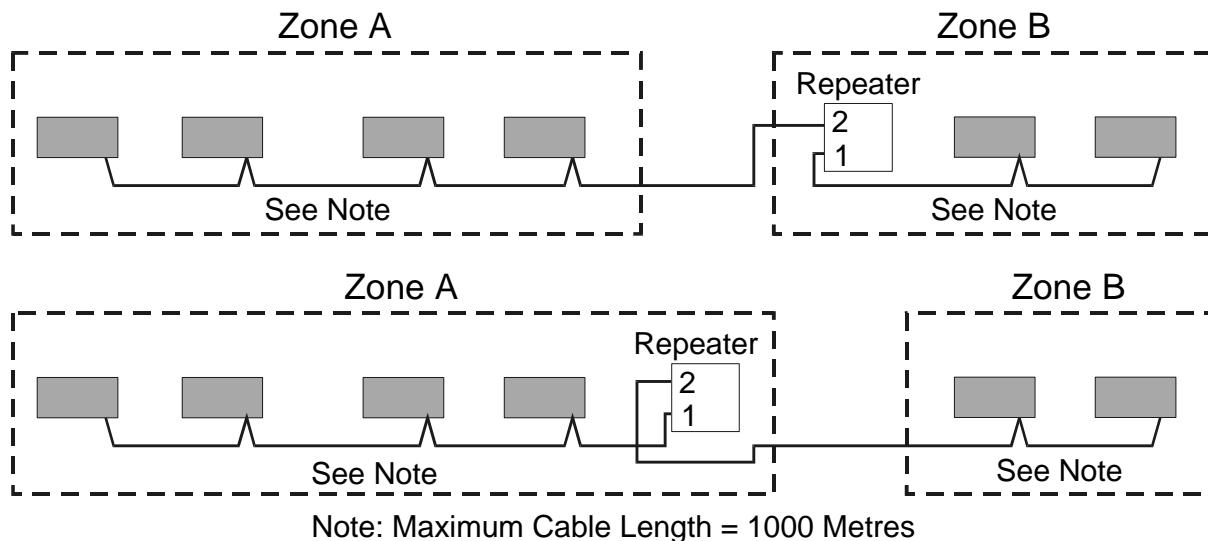

Figure A-3. Linking Networks in Different Locations.
**A-4.1.2. Linking Networks in Different Locations.** When linking networks in different buildings, or when linking modules supplied from different switchboards, isolation must be provided to eliminate earth loops. Use a GENII RPTR Repeater Module to isolate the networks (Figure A-3). Note that the cable going to the more remote zone is always connected to Port 2 of the Repeater Module.